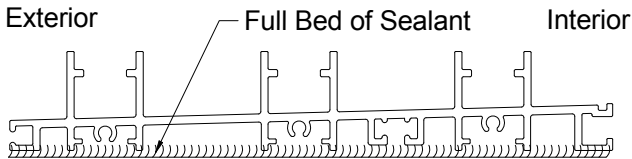

Figure 5.
Step 6. (Installation) Place assembled frame unit in bed of sealant full length of the frame sill (See Figure 5). If the installer chooses to install the sill riser after the frame has been placed in the rough opening, ensure that sufficient room is available.